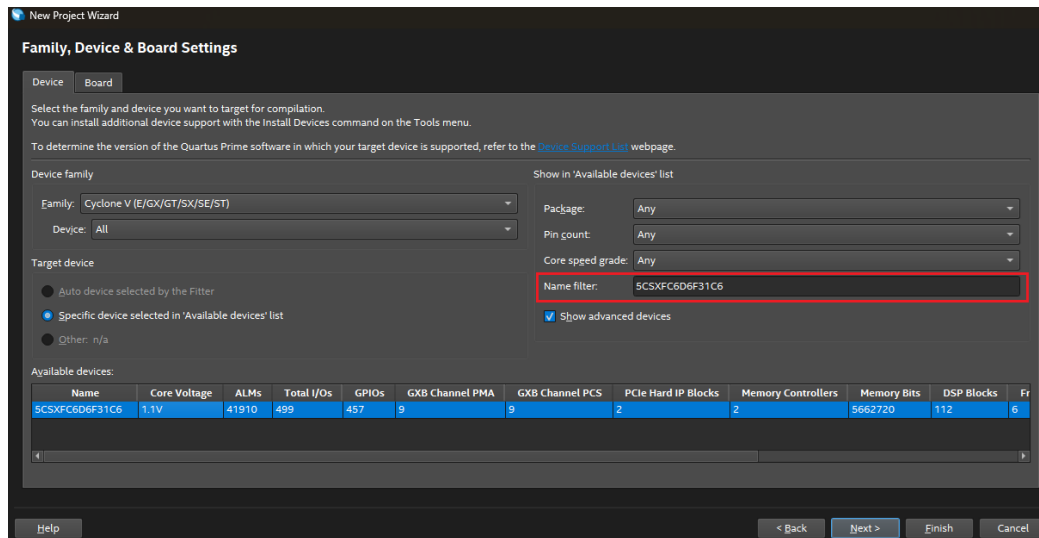

Figure 2. Device.
9. A single device should appear under “Available devices”. Make sure to select it as shown in Figure 2. Then click **Next**.